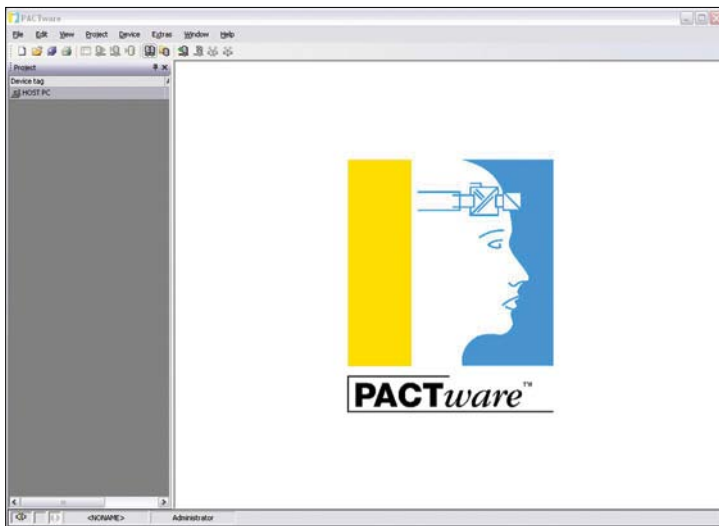

Figure 26. PACTware Main (Default) Screen
- Open the latest version of PACTware. Figure 26 shows the main default screen you will see when opening the program. (Please note: The CorrTran MV DTM will work with PACTware version 2.4 or later.)